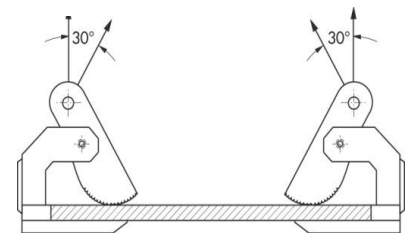

Figure 2
The plate is clamped between the segment and the base by the lever mechanism when tension is applied to the segment (see Figure 2).
Ensure, that the Working Load Limit (WLL) of each clamp is not exceeded and the load direction does not exceed 30° (see Figure 2), The side ways load direction may not exceed 10° (see Figure 3).
- 5) The plate can then be transported horizontally (see figure 2). Observe the points overleaf.
- When the load direction angle (see Figure 2) exceeds 30°, the clamps and slings must be derated according Table 4: